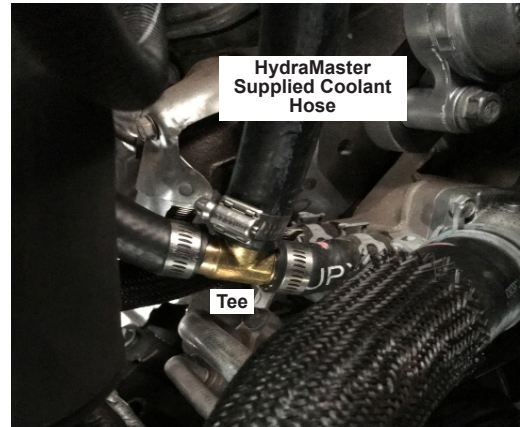

Figure 46. Cut Hose in Half and Install the brass Tee
3. Cut the hose in half and install the tee. The tee needs to be pointing up and slightly towards the front of the van (see Figure 46).